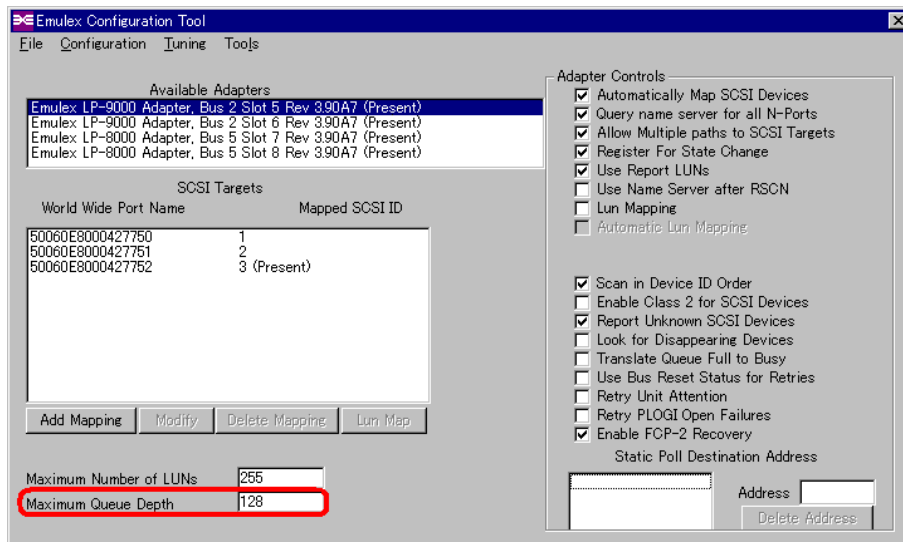

Figure C.1 Emulex® Configuration Tool
3. Set the desired Queue Depth to the Maximum Queue Depth (see Figure C.1).